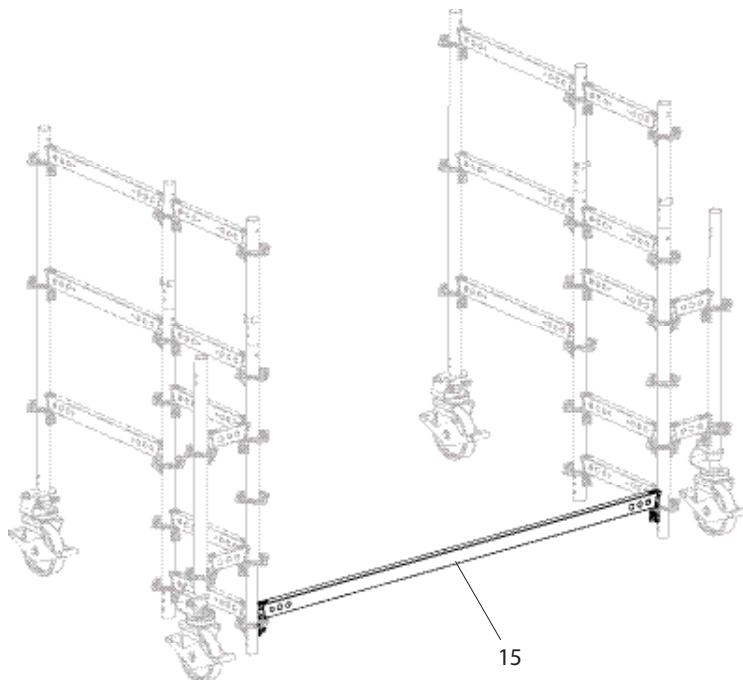

Fig. A1.04
1. Erect the first frame and secure it to prevent it from falling over with Horizontal Ledger UH-2 200 (15).
2. Erect the second frame and connect it to the horizontal ledger. (Fig. A1.04)